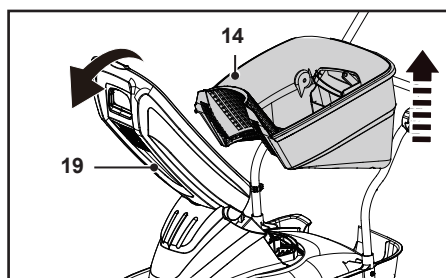

Fig. 13
1. Lift the grass catcher lid (19) and detach the grass catcher (14) from the machine (Fig. 13).